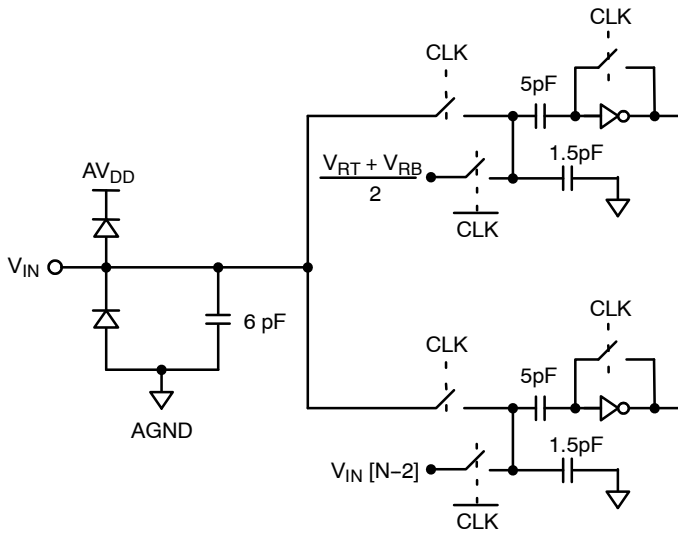

Figure 4. Equivalent Input Circuit
- 5 See V_{IN} input equivalent circuit (Figure 4.). Switched capacitor analog input requires driver with low output resistance.